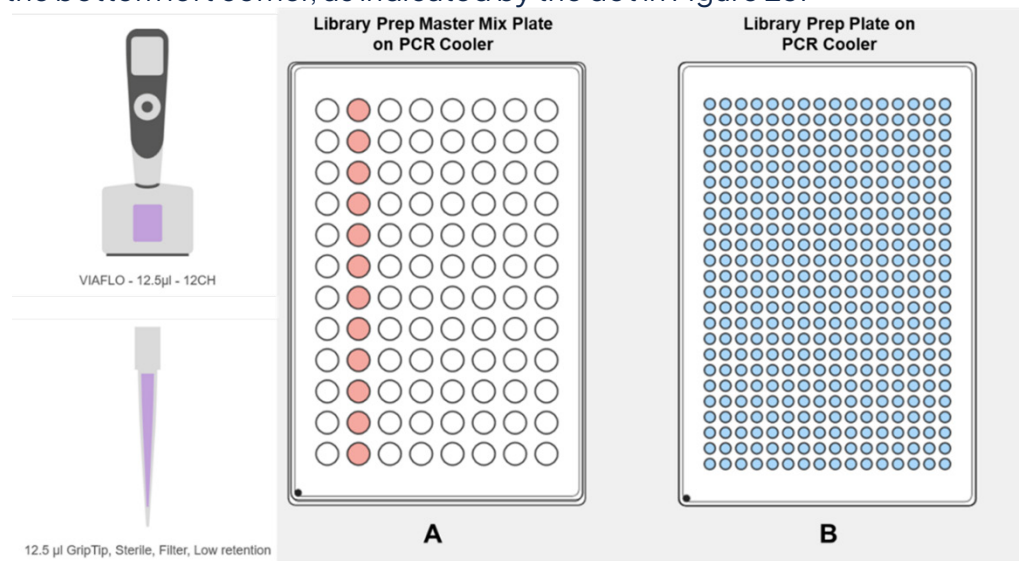

Figure 23: RO384_10_ERAT.
7. Place the Library Prep Master Mix Plate on the 96-well PCR cooling block in Position A and place the Library Prep plate on the 384-well PCR cooling block in Position B with position A1 of both plates in the bottom left corner, as indicated by the dot in Figure 23.